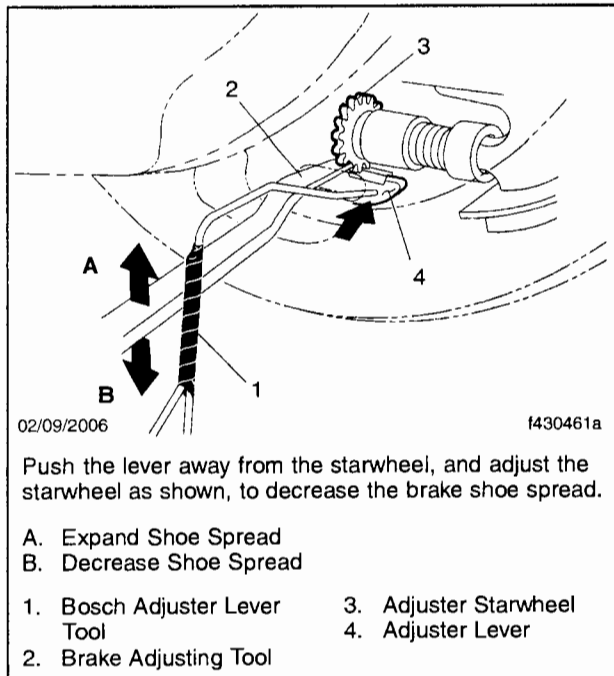

Fig. 2, Brake Adjustment
Insert the adjuster-lever tool through the adjusting slot in the brake backing plate and push the adjusting lever away from the starwheel, then, using a brake adjusting tool, move the teeth upward to retract the shoes until the drum can rotate without dragging. See **Fig. 2**.
- 21.1 Insert a brake adjusting tool through the adjusting slot and move the teeth downward to expand the brake shoes outward. See **Fig. 2**. Continue expanding the shoes until the drum can not be rotated.